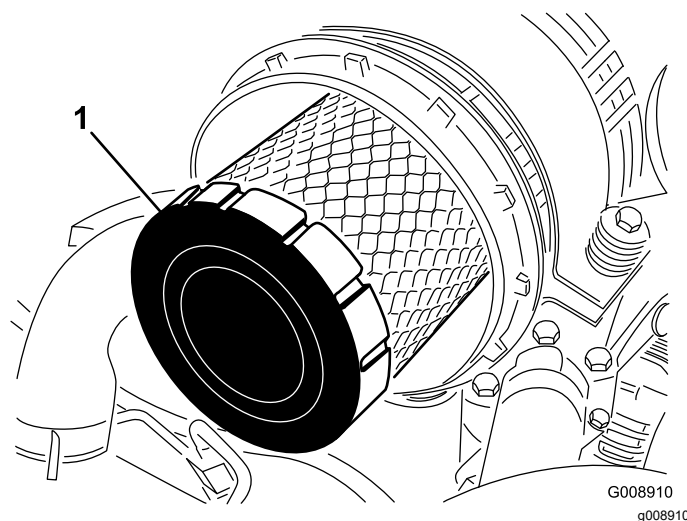

Figure 58
4. Remove and replace the primary filter (Figure 58).